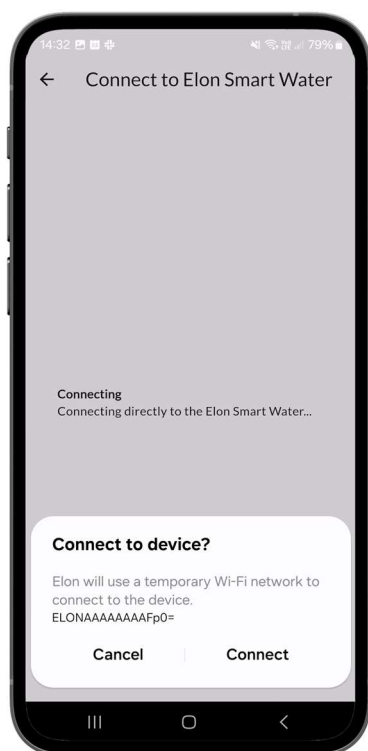

Figure A1 Network change
6. The application requests confirmation to switch to the Smart Thermostat's hotspot (**Figure A1**).